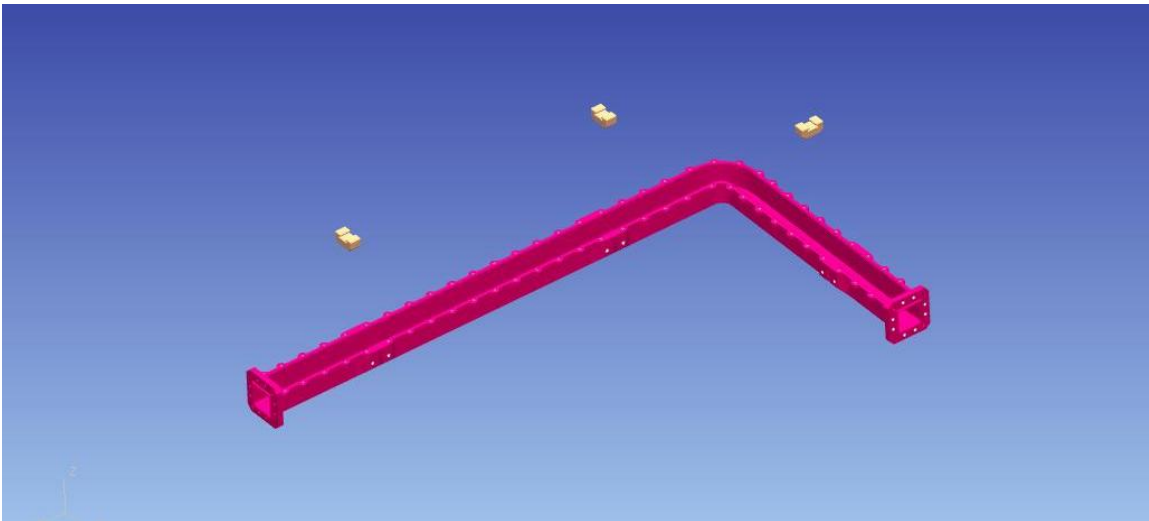

Figure 4: Installation of Bottom Boron-Nitride Spacers
4. Carefully install bottom Boron Nitride spacers into housing (Figure 4). Ensure that strips of Pressure-X film remain underneath bottom spacers. **Do not touch spacers with bare hands, use gloves!**
3. Carefully install bottom Boron Nitride spacers into housing (Figure 4). **Do not touch spacers with bare hands, use gloves!** Use same spacers as previously used if no damage to spacers is found. Place spacers in the same location as they were in Pressure Test #1.